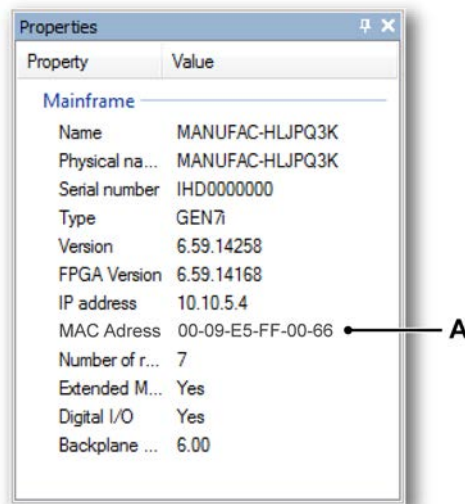

Figure G.5: Properties window in Perception
- 3 Enable the **Properties Window** (see Figure G.5); this can be found in the Perception “Windows” menu.
- 4 Open the **Hardware** window. Select the target mainframe (A). Right click on the mouse to open the context menu. Select **Mainframe view** (B).